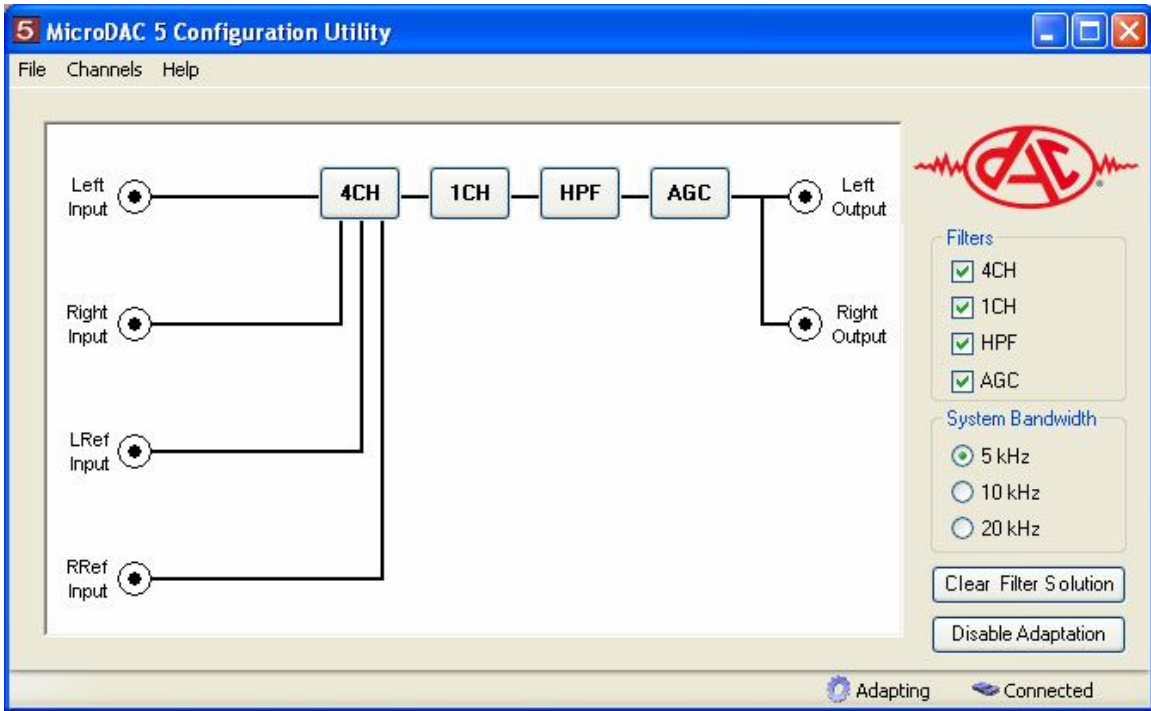

Figure 5-6: Mono 4CH
- 4CH with references on Right, LRef and RRef Inputs (see Figure 5-6)